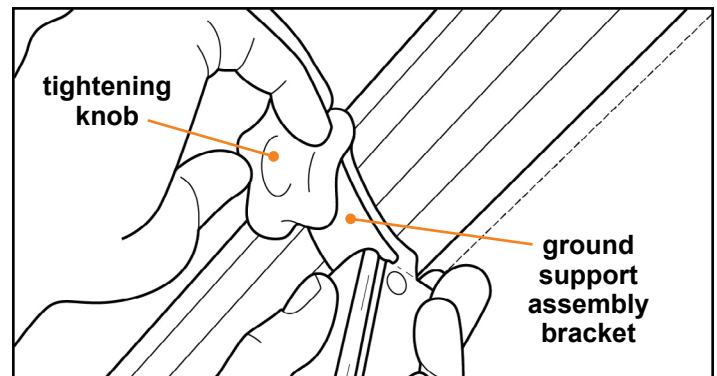

Fig.43
9. Place the Ground Support assembly bracket over the threaded hole. Insert the tightening knob into the threaded hole (Fig.43). Tighten to mount the Ground Support assembly to the roll tube.